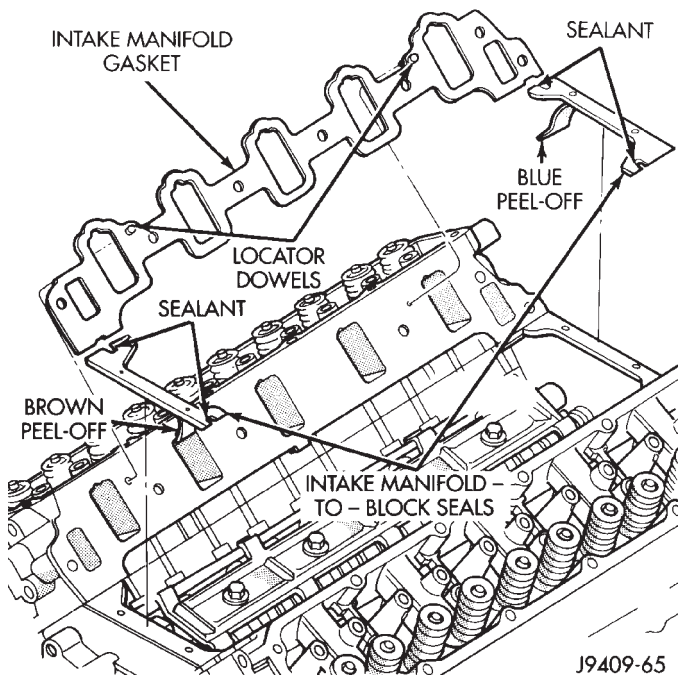

Fig. 23 Mopar® Silicone Rubber Adhesive Sealant Application Locations
(7) Insert Mopar® Silicone Rubber Adhesive Sealant, or equivalent, into the four corner pockets (Fig. 23). **Fill the pocket, but DO NOT overfill.**
(8) The lower intake manifold **MUST** be installed within 3 minutes of sealant application. Carefully lower intake manifold into position on the cylinder block and cylinder heads. After intake manifold is in place, inspect to make sure seals and gaskets are in place.
(9) Finger start all bolts, alternate one side to the other.
(10) Tighten the lower intake manifold bolts to 54 N·m (40 ft. lbs.) torque.
(11) Using a new gasket, position the upper intake manifold onto the lower intake manifold.